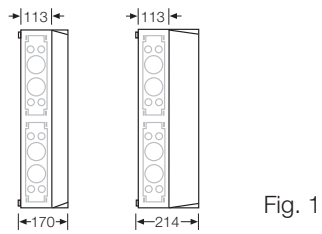

Fig. 1
**Different enclosure depths** allow the installation of equipment of different heights (Fig. 1).